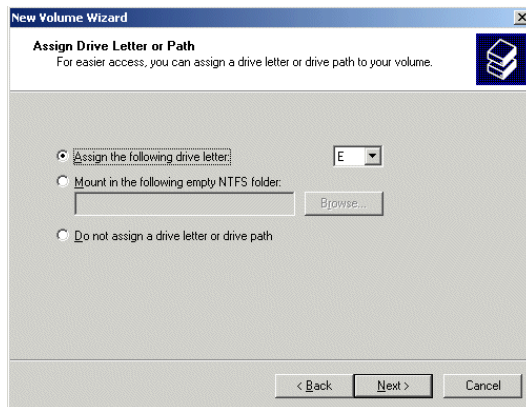

Figure 3-31
- 26) Click the **Next** button to be presented with the **Assign Drive Letter or Path** screen. Ensure that the **Assign the Following Drive Letter** item is selected and accept the default letter presented by the system (or enter a different letter if you require) as shown in Figure 3-31.